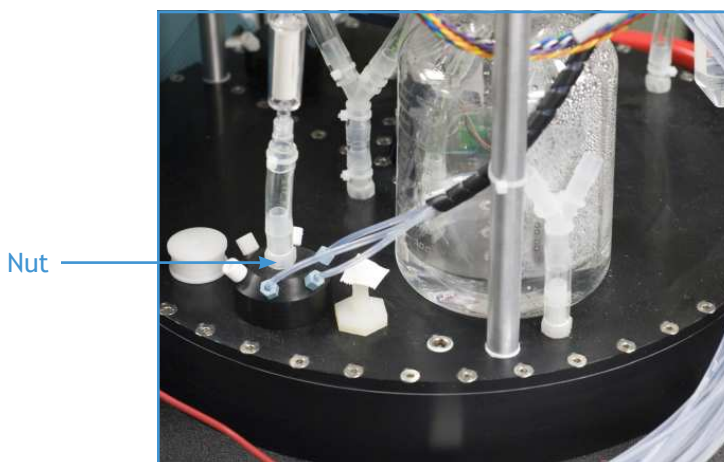

Figure 1-4: Opening to waste container
3. Using a 9/16-inch box wrench, loosen the nut for the air-filter assembly from the manifold to the first waste container to be emptied. See Figure 1-4.